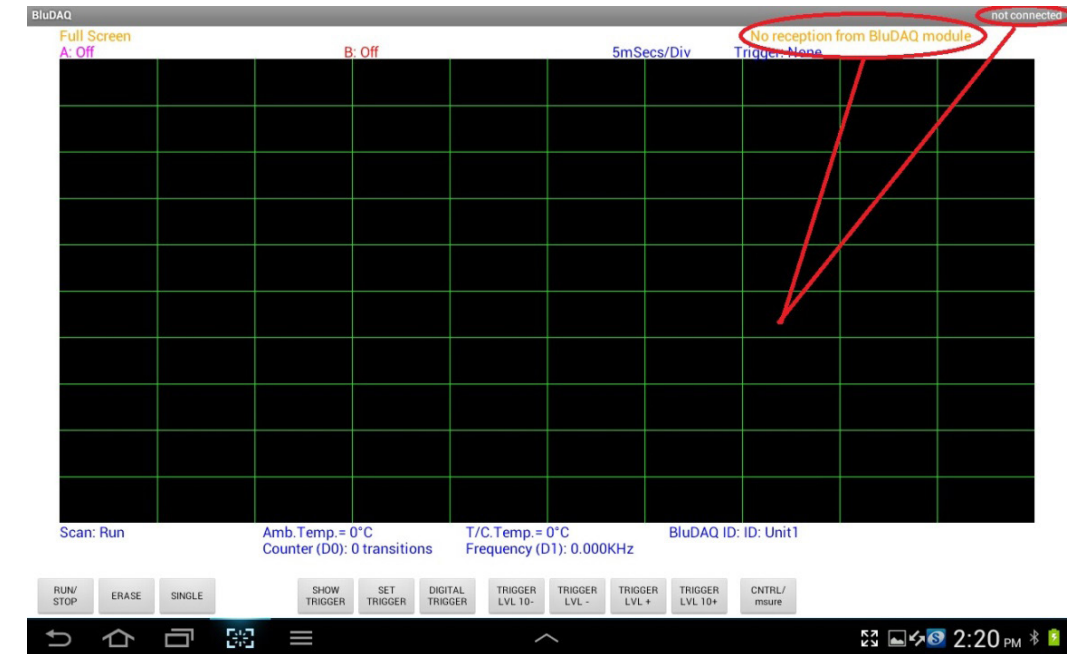

Figure 2
16. You should notice the message “no reception from BLUDAQ® module” and “not connected” in the top right of the screen. See Figure 2.